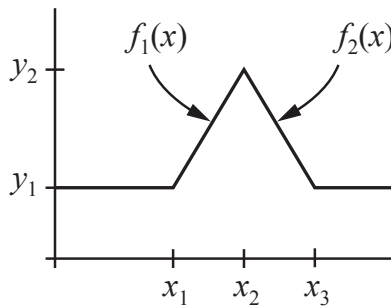

Figure 11: Hat function composed of piecewise continuous line segments
An **if-elseif-else** structure can be used to evaluate a piecewise function. Consider the “hat” function shown in Figure 11. The goal is to write the Arduino code that evaluates $y = f(x)$ for any x when $f(x)$ is defined by the piecewise continuous “curve” in Figure 11.
The following code snippet evaluates the piecewise function in Figure 11, using the formulas in Equation (1) and Equation (2).